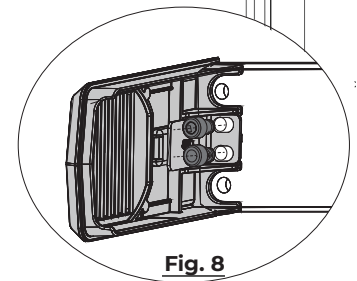

Fig. 8
2. Fasten the endcap to the backplate by placing two (2) endcap mounting screws through the L-bracket slots into the threaded holes and tighten. (Fig. 8)